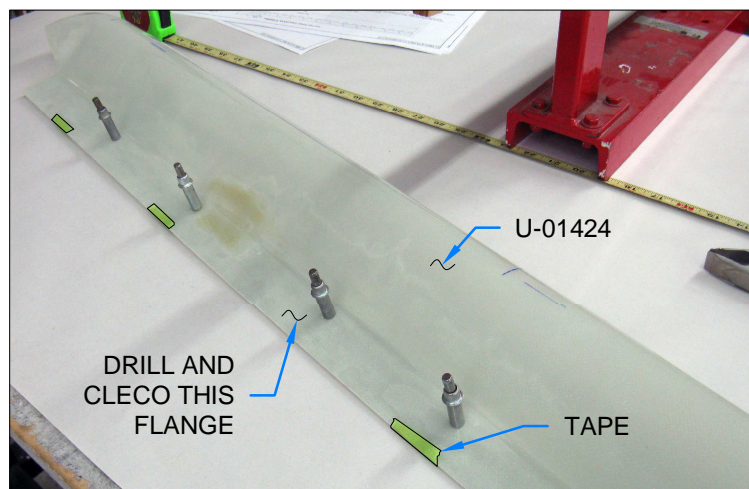

FIGURE 1: SECURE THE NOSE GEAR LEG FAIRING
Make sure that the other end of the fairing also has the trailing edge exactly above the leading edge. This will verify that the fairing was molded without twist. See Page 46A-19 Figures 1 & 2 for similar process.
Step 2: Beginning with the nose gear leg fairing held in the "no-twist" position, place tape on the trailing edge to hold it in the proper alignment as shown in Figure 1.
Step 3: Drill #40 and cleco four holes in the trailing edge flange of the nose gear leg fairing located approximately as shown in Figures 1 & 2.